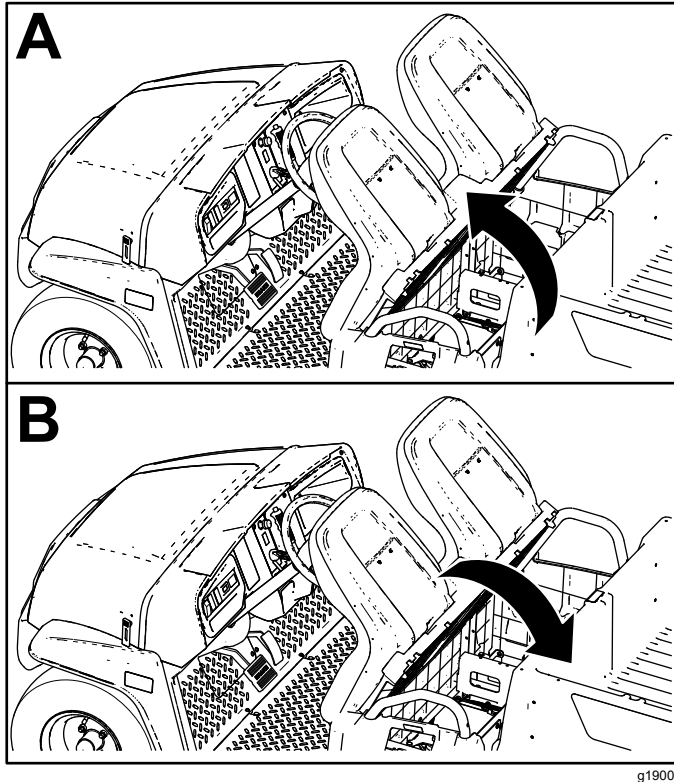

Figure 29
To raise the seat assembly, push the seat assembly forward until it rests on the steering wheel (Figure 29).
To lower the seat assembly, push the seat assembly rearward until it seats back into the original position (Figure 29).
1. Push the seat assembly forward to the raised position (Figure 29).